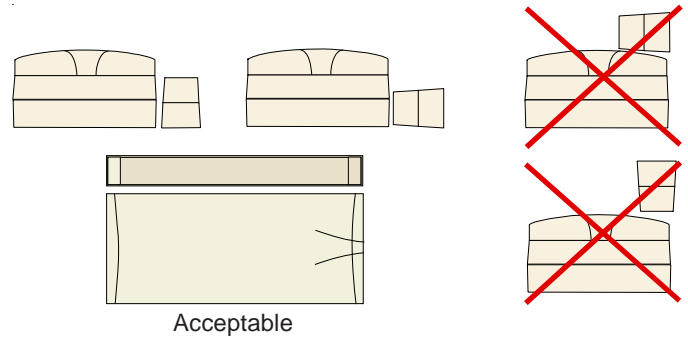

Figure 1 - Mounting Considerations
- Note that the Magnet Assembly **must** be mounted within 1 in. to 1.25 in. (25 to 32 mm) of the Point Transmitter and in an acceptable orientation as shown in Figure 1.